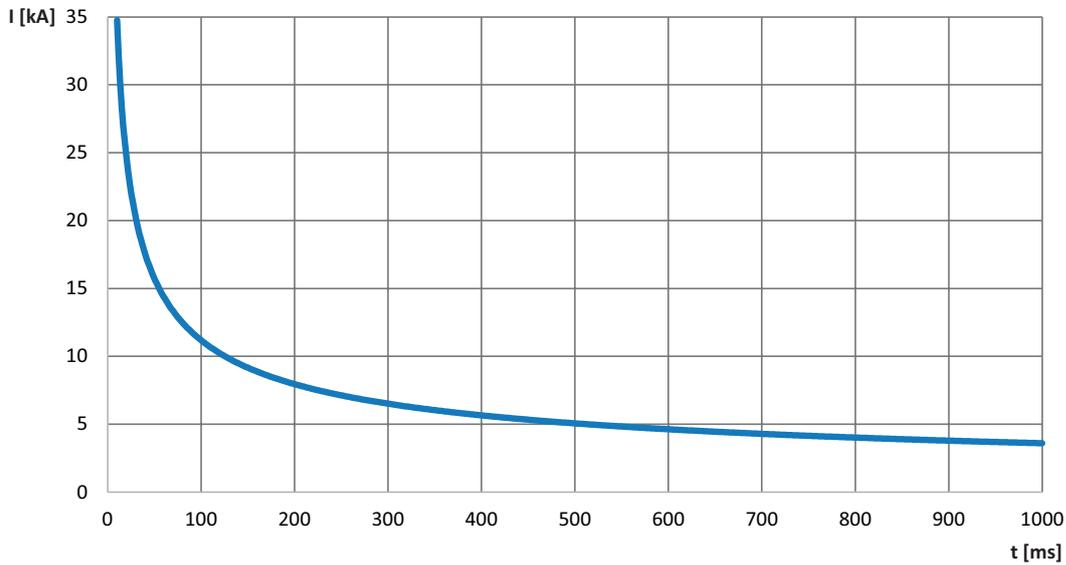

Fig. 11: Load characteristic for BVL function recoverability
1. BVL-50-xxx - a fast switching element that autonomously evaluates voltages between the RAIL and EARTH terminals. In case the voltage level is exceeded (xxx is the nominal triggering voltage of the BVL - 45 V / 60 V / 120 V), it short-circuits both terminals and limits the voltage to a permissible value. This is essentially a Class 2.2 VLD equipped with anti-parallel thyristors and a Type A2 surge arrester (to provide lightning protection). The advantage of this concept is that the PVL is able to react to line voltage overruns in the event of a fault or lightning strike. This concept also ensures maximum speed of response of the PVL and maximum availability of protection for persons who may come into contact with the protected system. The BVL-50-xxx operates as a stand-alone VLD-O+F. When loaded according to the characteristics in Fig. 11, it behaves as a renewable VLD-O+F and when the load is exceeded, it transitions to a permanently conductive state as a VLD-F. If it is overloaded, it can be replaced without the need to integrate a new BVL into the system (i.e., without the need of adjusting and checking the other parts of the PVL).